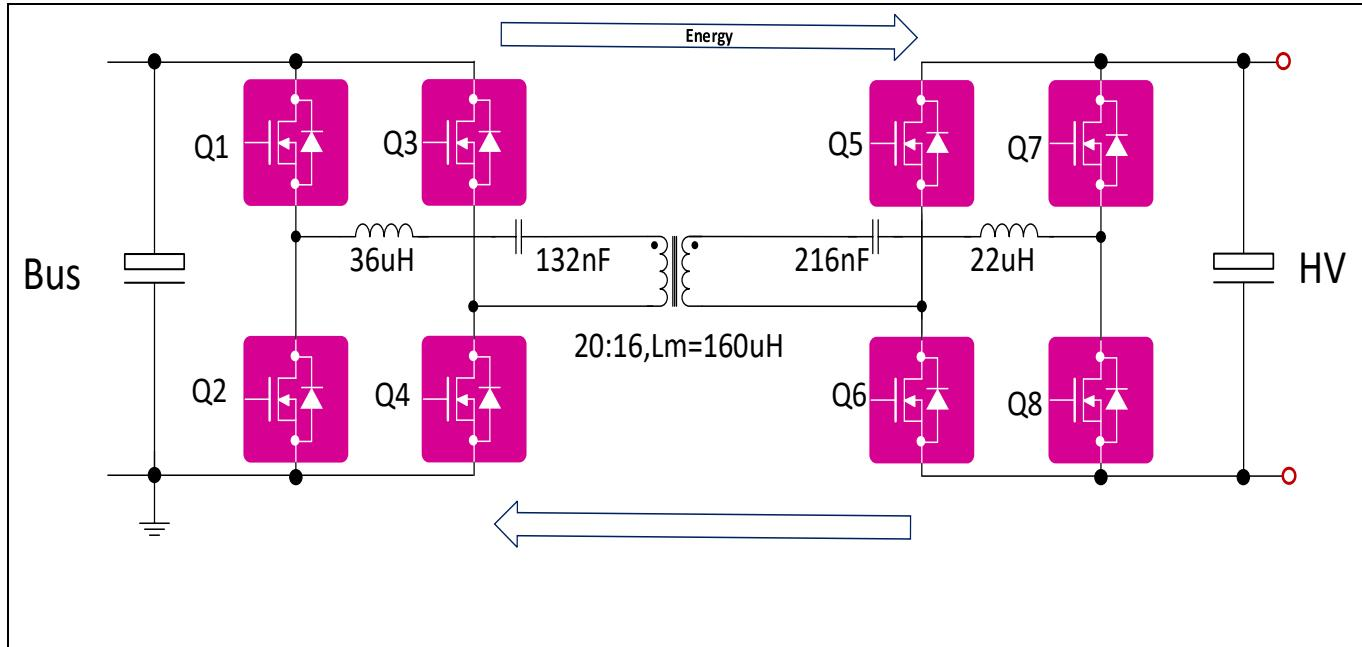

Figure 4 Buck mode recommended validation set-up
- HV electronic load (500 V to 800 V), in constant current mode, capable of at least 11 kW (when testing up to full load). Nominal input voltage of the converter is 750 V. The converter works as indicated in Figure 4.
The output gain function of CLLC topology is generally analyzed by the fundamental wave-analysis method. Based on this analysis method, the parameters of the key resonant components in the current design are shown in the Figure 4:
V_{HB} is the V_{ds} voltage of Q2 (The position of SiC MOSFETs Q1~Q8 can be seen in Figure 4.).